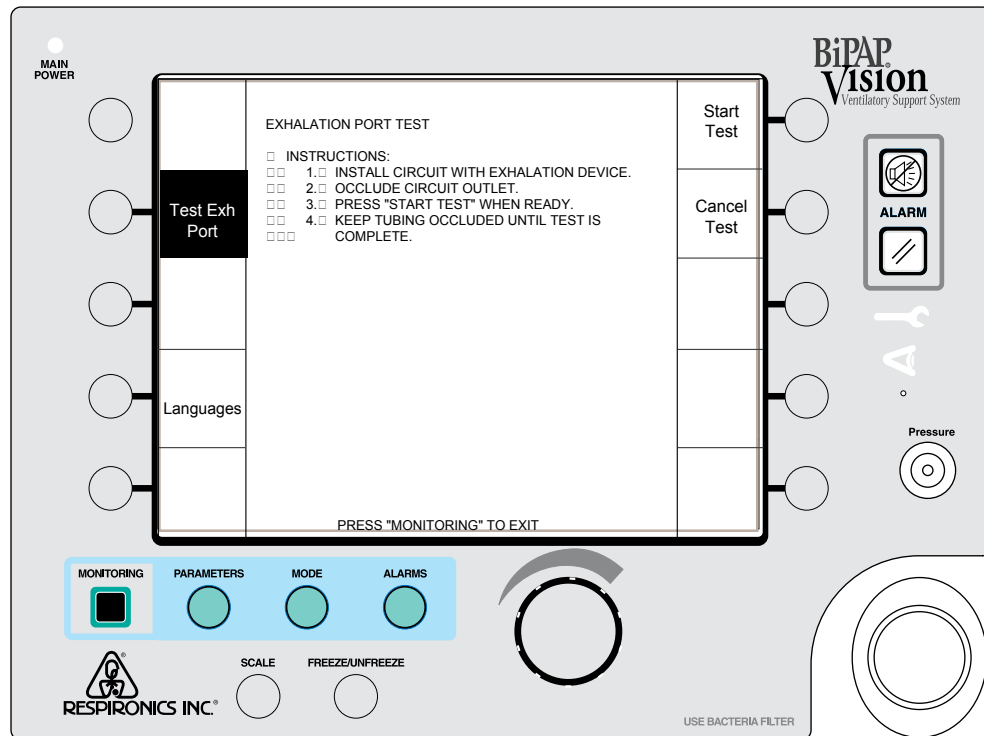

Figure 8-2
Step 5 Press the **TEST ALARMS** soft key to verify that both the audible tone and the alarm messages activate for all available alarms. The Ventilator Inoperative and Check Ventilator icons should illuminate during the test. The Vision front panel should look like Figure 8-2 (O₂ Flow, Lo MinVent, Hi Rate, and Lo Rate appear if the oxygen module and optional alarms are installed).